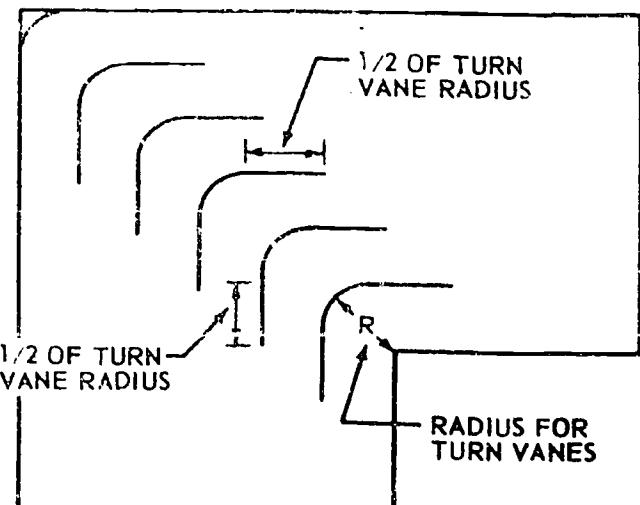

Figure 3-6. Turn vanes in square elbow.
**Turn Vanes.** Turn vanes (see fig. 3-6) are used in the elbows of square or rectangular ducts to reduce turbulence and pressure loss and to provide a more uniform distribution of air. Turn vanes are especially valuable in the elbows connected to supply registers and grilles.
In figure 3-6 you can see that the turn vanes form several small elbows that function very much like splitters. However, you determine the number of turn vanes and their distances apart in a different way from those for splitters. For best airflow, the turn vanes should be spaced so that they have an aspect ratio of 5 (5 to 1). The aspect ratio of an elbow is equal to the height of the elbow divided by its width ( $\frac{H}{W}$ ).
(Remember that the width of an elbow is in the same plane as its radius.) For example, if the elbow in figure 3-6 is 15 inches high, we can substitute 15 for H, solve for W (width or radius of the turn vanes), and find that the turn vane width should be 3 inches if maximum airflow is to be obtained. Therefore, the turn vanes should be installed 3 inches apart to divide the elbow into several effective smaller elbows, each with the desired aspect ratio of 5:
To determine how many turn vanes you need, measure the distance from the throat corner to the heel corner of the elbow and divide it by the 3-inch radius. For example, if in figure 3-6 the distance from throat to heel is 24 inches and each turn vane is to be 3 inches apart, you should divide 24 by 3 to find that you need 8 turn vanes.
Notice in figure 3-6 that each turn vane is straight on both sides of the 90° radius bend. The length of each straight edge is equal to 1/2 the distance (radius) between the turn vanes. Since in this example the turn vanes must be 3 inches apart, each straight edge should extend 1½ inches past the 90° radius bend.